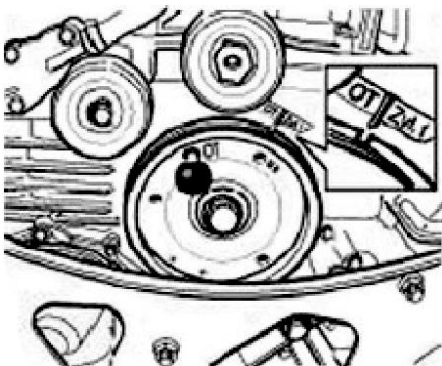

Fig.3
3. 3 & 4 Crankshaft locking pin (short or long) for aligning the crankshaft at TDC position. (Fig.3)